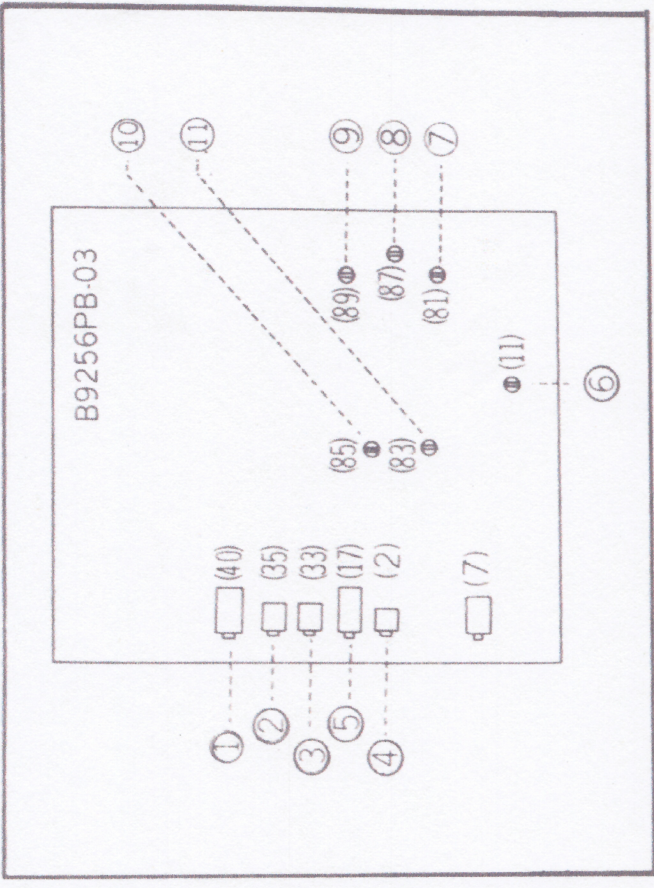

Figure 5-1. Location of Adjustment Resistors.
- Remove the four screws on the bottom of the case, and take off the outer case. The adjustment resistors are located as given in Figure 5-1.